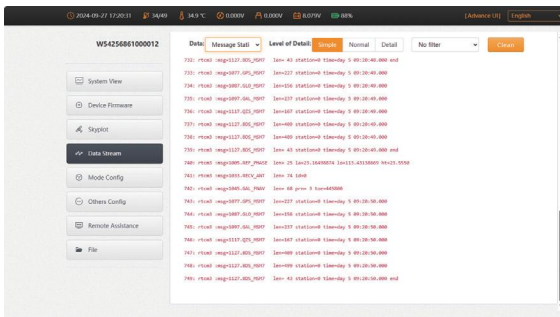

Figure 2.4-5
4. Message Static: When the device is in static mode, you can check here whether there is static data output, as shown in Figure 2.4-5: